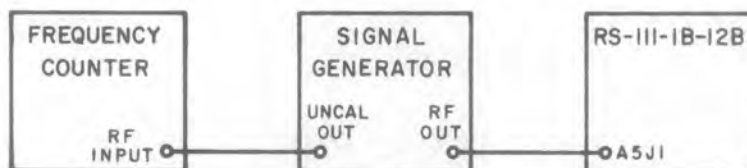

Figure 4-42. Test Setup, Signal Monitor Linearity
- (1) Connect the equipment as shown in Figure 4-42.